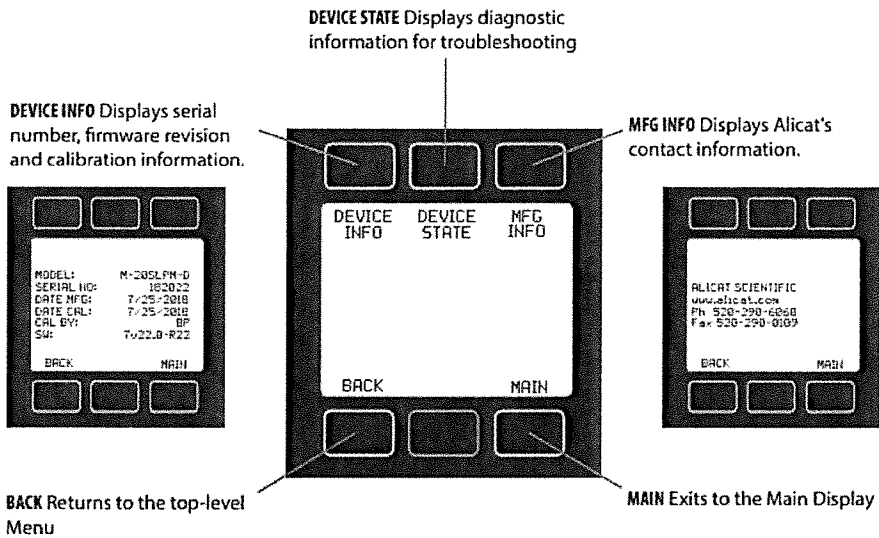

Figure 8. About Menu
**About** contains useful information for setup, configuration, and troubleshooting (Figure 8). For more information and instructions on “About” functions please refer to the ALICAT MB Series User Manual.